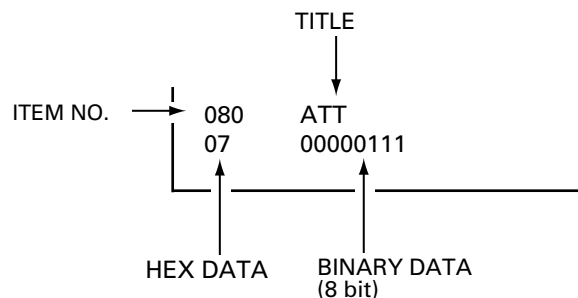

Figure 1. Service Menu Display
- While pressing the Volume (–) button on the television, reconnect the AC power supply. The Service Menu will now appear. The remote can now be used to make adjustments. See Figure 1 below.